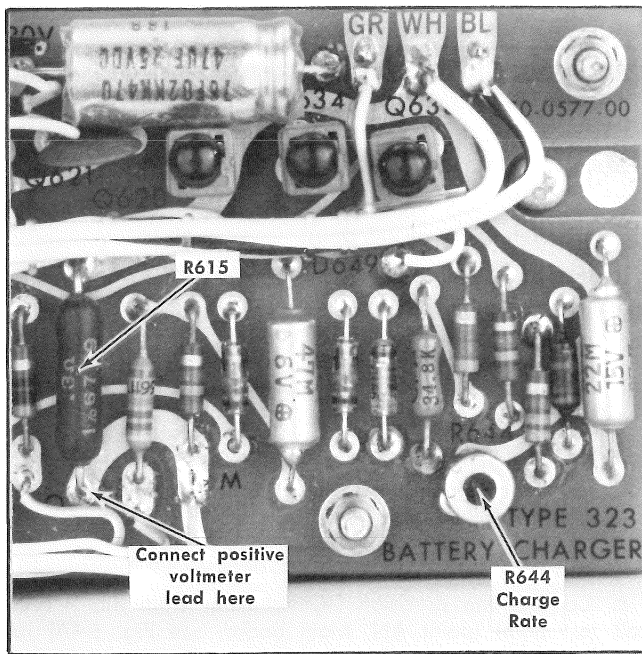

Fig. 6-2. Location of R615 and Charge Rate adjustment (Power Pack board).
- b. Connect the precision DC voltmeter across R615 (see Fig. 6-2). The positive lead of the voltmeter should be connected to the bottom of R615. Be sure the negative lead of the voltmeter is isolated from ground.
- d. ADJUST—Charge Rate adjustment, R644 (see Fig. 6-2), for a meter reading of 54 millivolts.